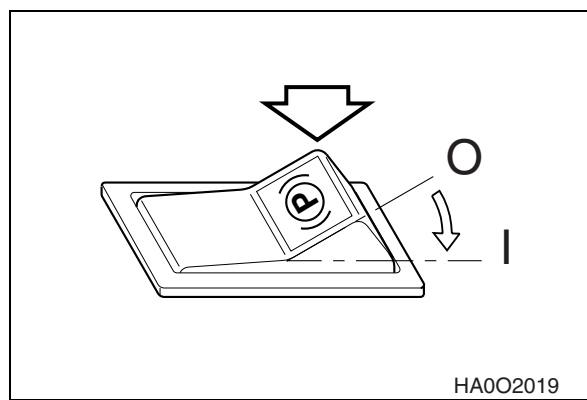

Figure 8
7. To add oil, remove transmission fill cap (Figure 8) from transmission oil fill pipe. Refer to “Table of Recommended Lubricants” on page 4-3, of this manual for recommended oil for the operating conditions.